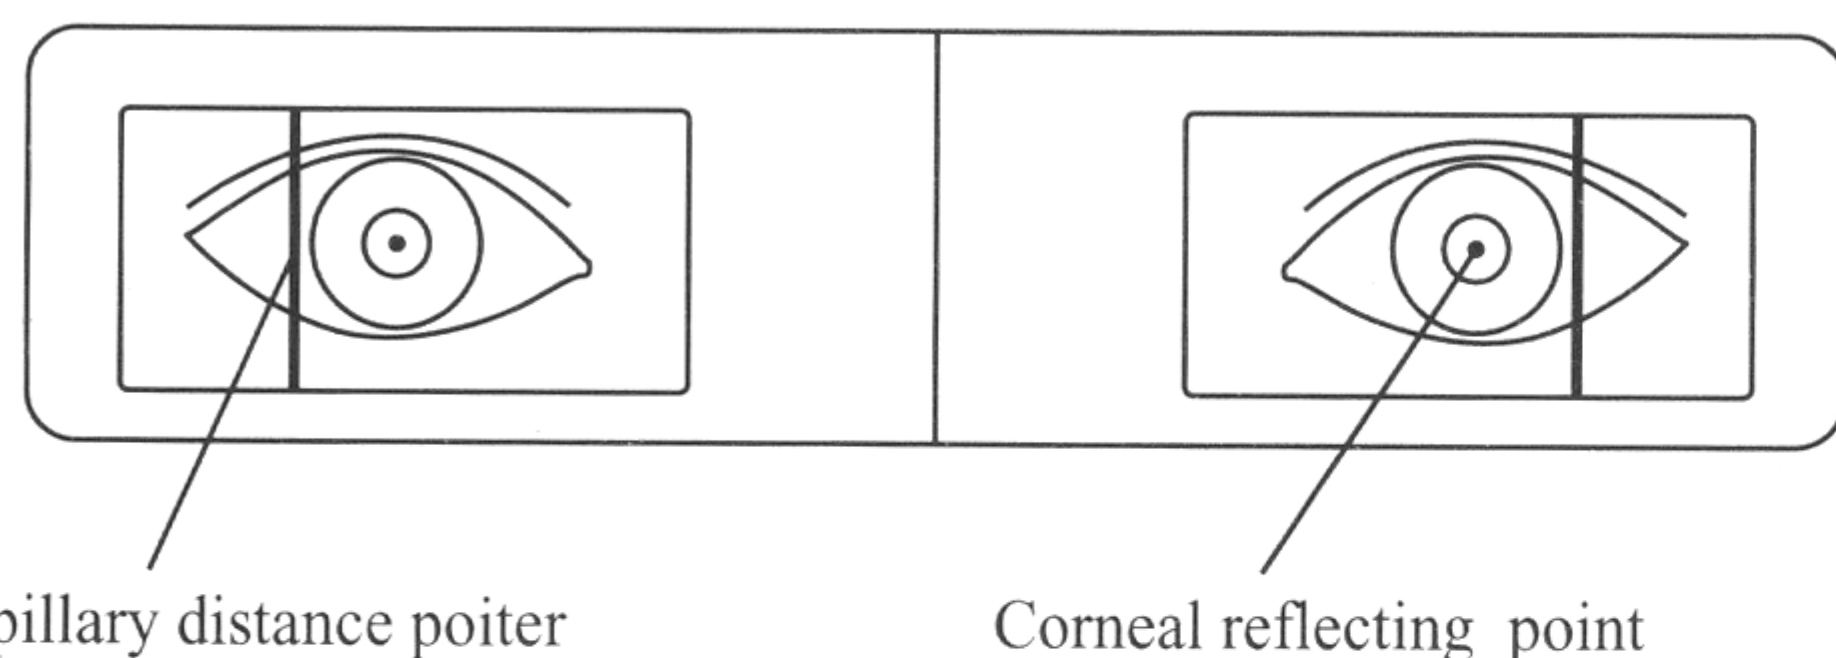

Fig.7a (The sight is what the tester observes through measuring window)
4.3.4 The tester observes the reflecting light spot on the testee's pupil through measuring window. Side the Left and Right Pupils Measuring Keys, the left and right pupillary distance pointers will coincide with the reflecting light spots of the testee's left and right pupils, respectively(as shown in Fig.7a and Fig.7b). The data shown in the display window is the measured pupillary distance.